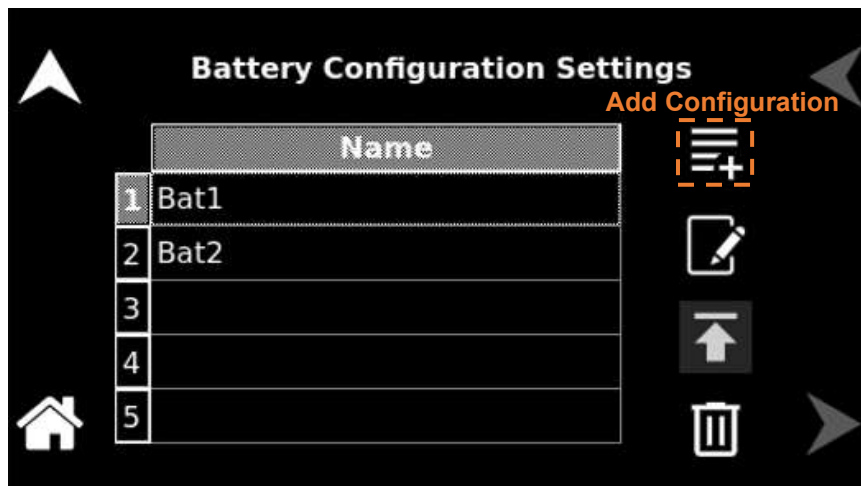

**Figure 13-19. Profile Selection**
- Open the 'Battery Configuration Settings' and select the 'Add Configuration' option on the right side of the screen. Refer to Figure 13-19.